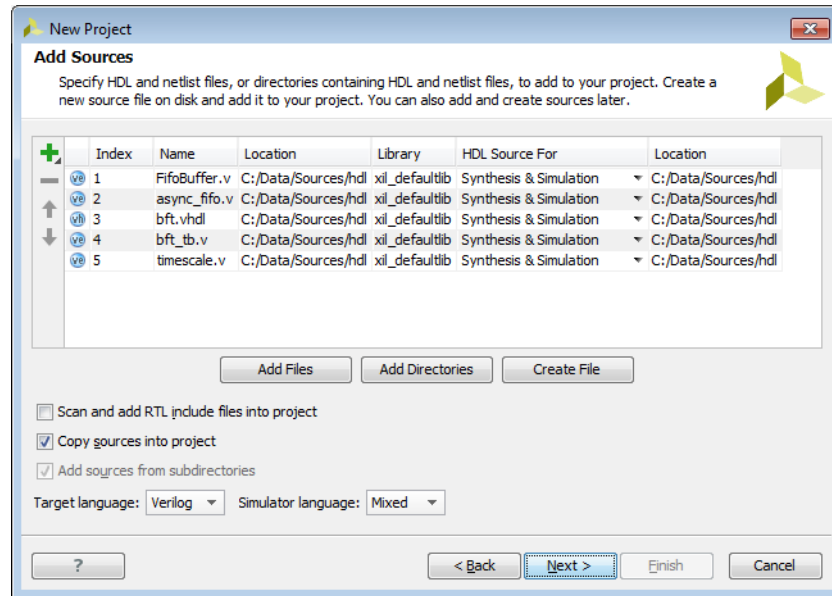

Figure 2-3: New Project Wizard—Add Sources Page
3. In the Add Sources page (Figure 2-3), set the following options, and click **Next**:
In some cases, third-party providers offer IP as synthesized NGC or EDIF netlists rather than HDL sources. To load netlist-based IP sources, add these files in the **Add Sources** dialog box as shown in Figure 2-3. You can also load parameterized cores into the project from within the Vivado IDE using the IP Catalog, as described in Working with IP Sources in Chapter 3.